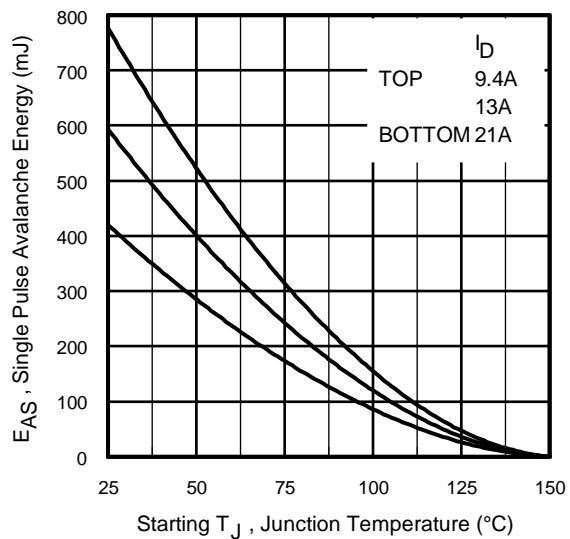

Fig 14a. Maximum Avalanche Energy vs. Drain Current
- ② Starting $T_J = 25^\circ\text{C}$, $L = 1.9\text{mH}$, $R_G = 25\Omega$, $I_{AS} = 21\text{A}$. (See Figure 14a)
- ③ $I_{SD} \leq 21\text{A}$, $dI/dt \leq 788\text{A}/\mu\text{s}$, $V_{DD} \leq V_{(\text{BR})\text{DSS}}$, $T_J \leq 150^\circ\text{C}$.
- ④ Pulse width $\leq 300\mu\text{s}$; duty cycle $\leq 2\%$.
- ⑤ $C_{oss \text{ eff.}}$ is a fixed capacitance that gives the same charging time as C_{oss} while V_{DS} is rising from 0 to 80% V_{DSS} . $C_{oss \text{ eff. (ER)}}$ is a fixed capacitance that stores the same energy as C_{oss} while V_{DS} is rising from 0 to 80% V_{DSS} .
- ⑥ R_θ is measured at T_J approximately 90°C